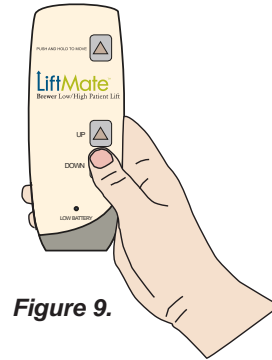

Figure 9.
8. Platform may be left in the “UP” position. To lower platform press “DOWN” on the hand pendant, Figure 9 next page.
6. Lower platform all the way down, Figure 9, and assist patient off of LiftMate.